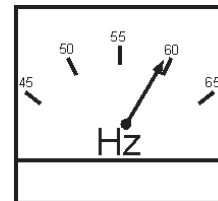

Figure 43. Frequency Meter (Hz)
9. The generator's frequency meter (Figure 43) displays the 60 cycle output frequency in **HERTZ**.